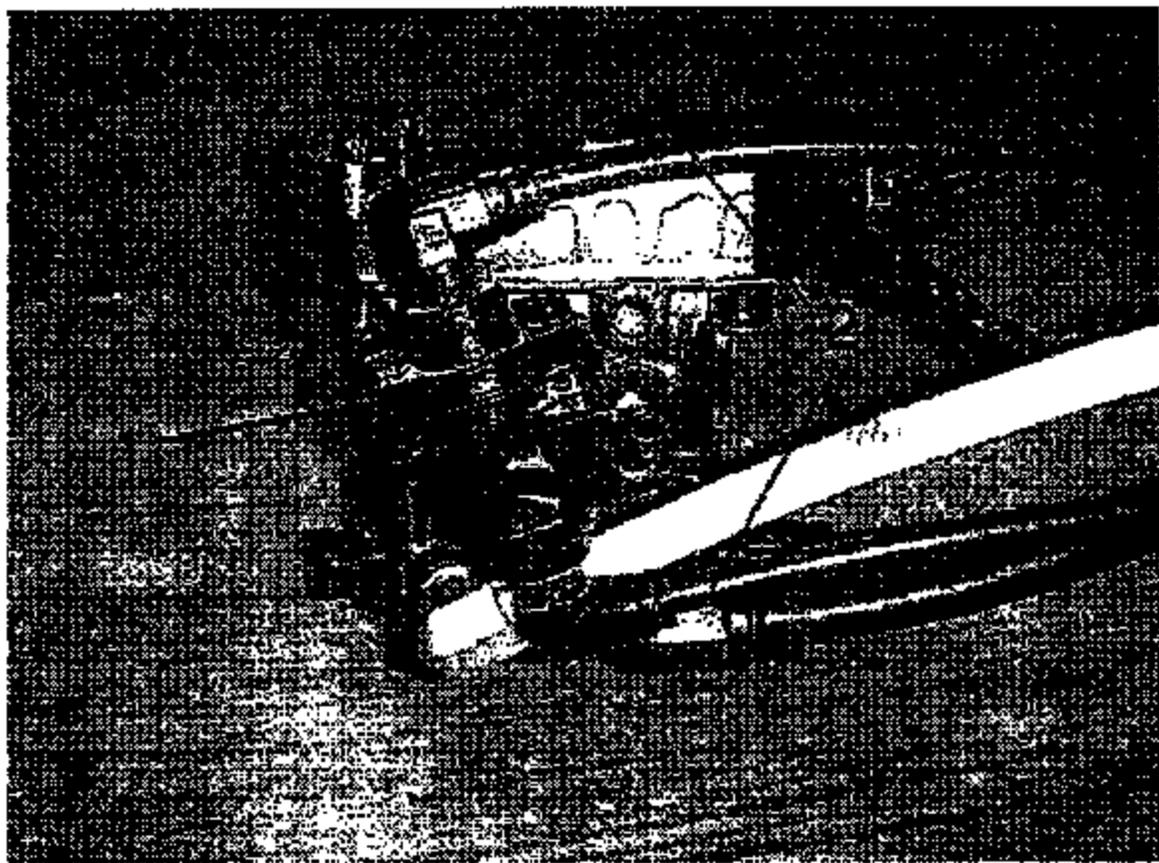
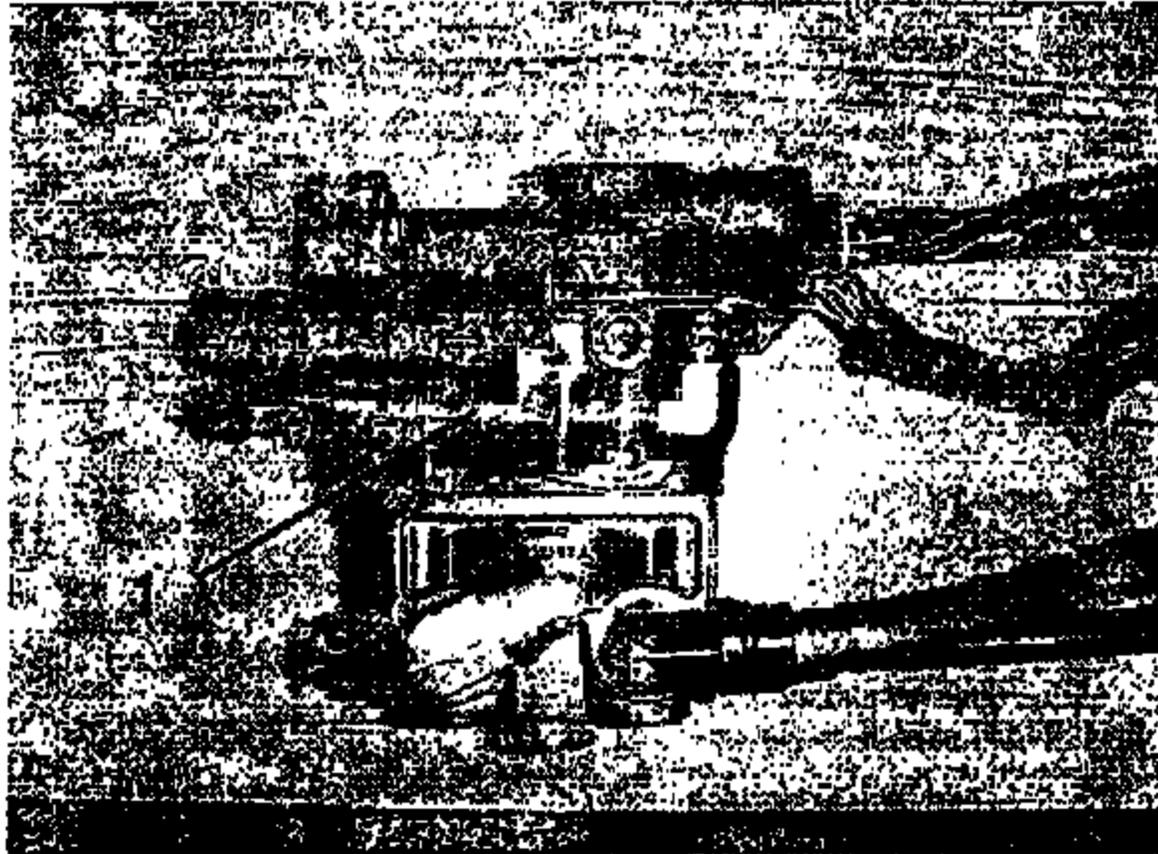

Figure 2
Figure 3
- 2.2. If the double check valve is located in the rearward port of the relay valve proceed according to the following steps (see Figure 2, page 4):
- 2.2.2. Rotate the double check valve 90 degrees counterclockwise as shown in Figure 3, page 5.
- 2.2.7. Reinstall the double check valve to the position as shown in Figure 3, page 5 by stopping a ¼ turn from the final tight position (see Figure 2, page 4 for the final tight position).
- 2.2.8. Apply pipe sealant to the new short 90-degree elbow and tighten the elbow to the position shown in Figure 2, page 4. Be sure the elbow is positioned 30 degrees above horizontal.
- 2.2.9. Rotate the double check valve to the final tight position shown in Figure 2, page 4.